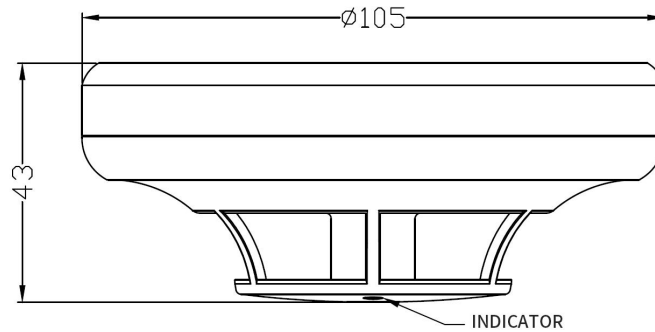
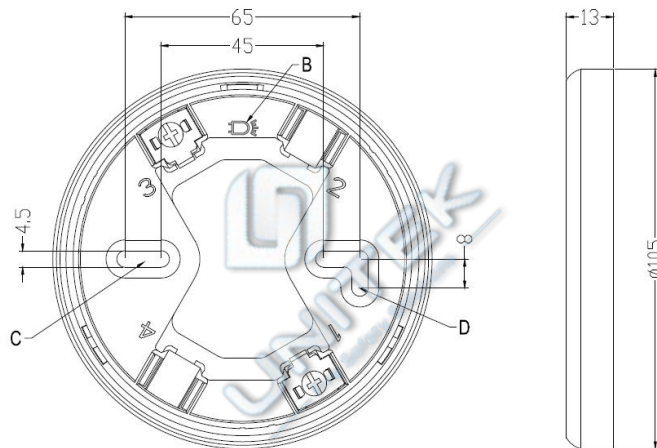

Figure.1 (Unit: mm)
Figure 5
4 Appearance and dimensions(see Figure 1)
A supporting base is required to install the detector, as shown in Figure 5. The external dimension is 105mm × 13mm(diameter × thickness), the diameter of the fixed holes is 4.5mm, and the spacing of the fixed holes is 45mm ~ 65mm.
- Secure the base to the specified position using two M4 screws through holes C and D, shown in Figure 5, according to the construction drawings. Ensure that the base is securely installed.
- Align the indicator light at detector A (as shown in Figure 1) with the pattern at base B (as shown in Figure 5), insert the detector into the base, and turn the detector clockwise until the detector is locked in place;